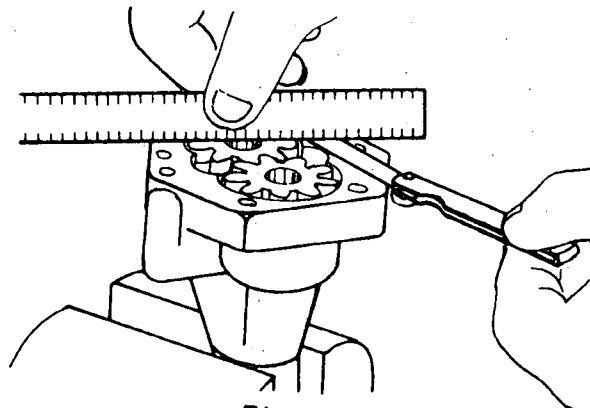

Fig. 3
- c) Check the height of the gears and check its clearance (fig. 3).